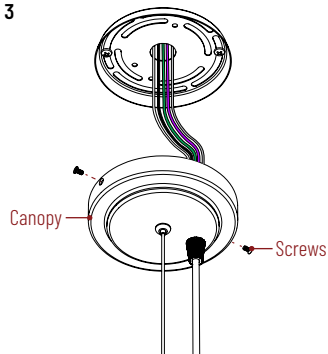

Figure 4
7. Connect ideal connector from LED driver to Sapphire reflector. (Figure 4)